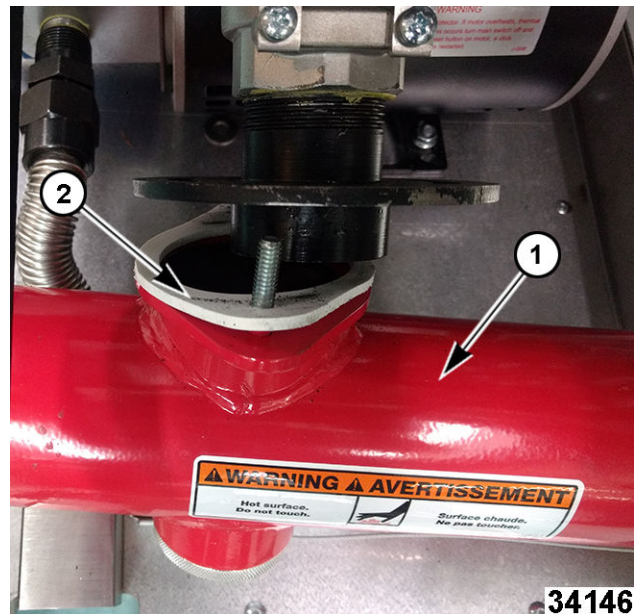

Fig. 95
3. Remove drain manifold (1, Fig. 95) and flange gasket (2, Fig. 95) if fryer has a filter system.